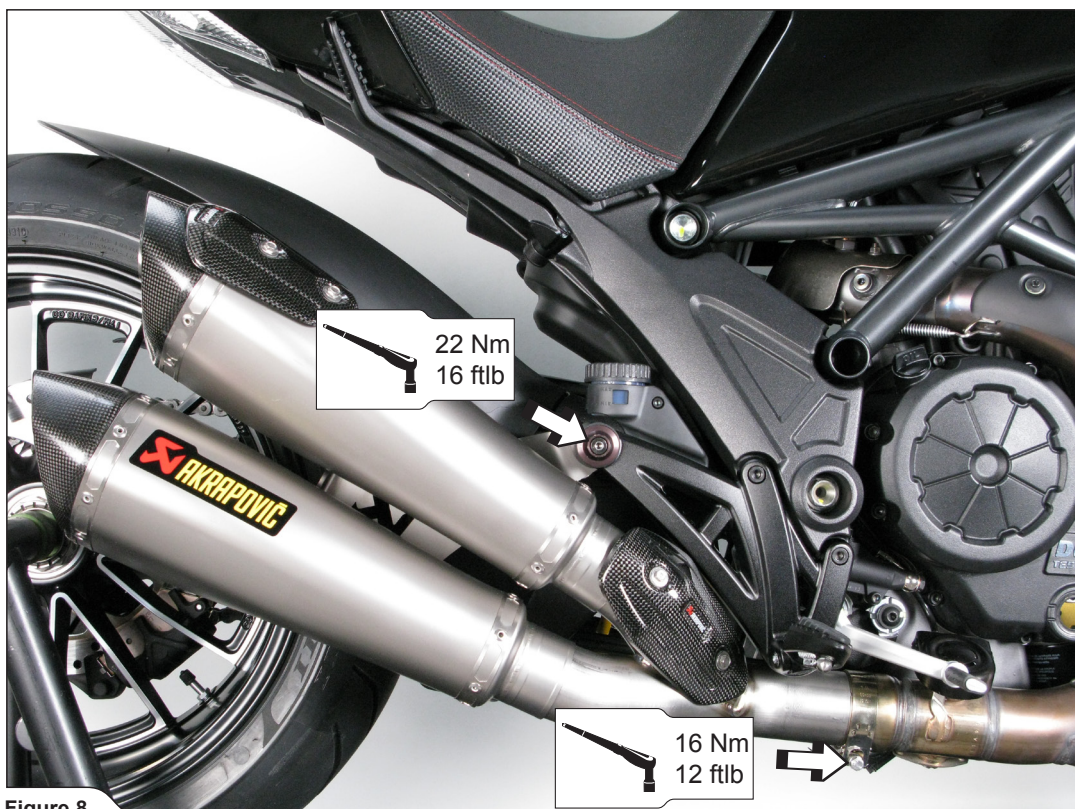

Figure 8
- Slide the assembled mufflers onto the outlet of the original collector. Align the mufflers in respect to the motorcycle and tighten the mufflers' bracket using original bolt, aluminium washer and nut. Tighten the original clamp at the Akrapovič link pipe-collector connection (Figure 8).